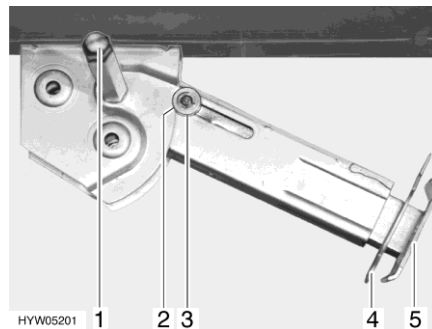

Fig. 27 Steady leg
- Place the socket spanner on the hexagon nut (Fig. 27,1) and rotate until the steady leg is in a perpendicular downward position.
- Remove the splint (Fig. 27,4) out of the support foot extension (Fig. 27,5).
- Place the socket spanner on the hexagon nut (Fig. 27,1) and rotate until the steady leg is clear of the ground.
- Push in the support foot extension (Fig. 27,5) and insert the splint (Fig. 27,4) in the drilled hole in the support foot extension.
- Rotate the hexagonal nut (Fig. 27,1) with the socket spanner until the steady leg has swung upwards and the guide disc (Fig. 27,3) has completely retracted into the notch (Fig. 27,2).